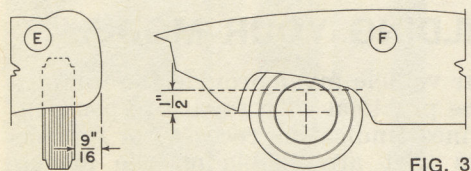

FIG. 3
(Fig. 3)—If the fenders cover any part of the front wheels below a line that is $\frac{1}{2}$ inch higher than the wheel center (F, dotted line), the wheels should be placed $\frac{9}{16}$ inch from the fender edge (E).